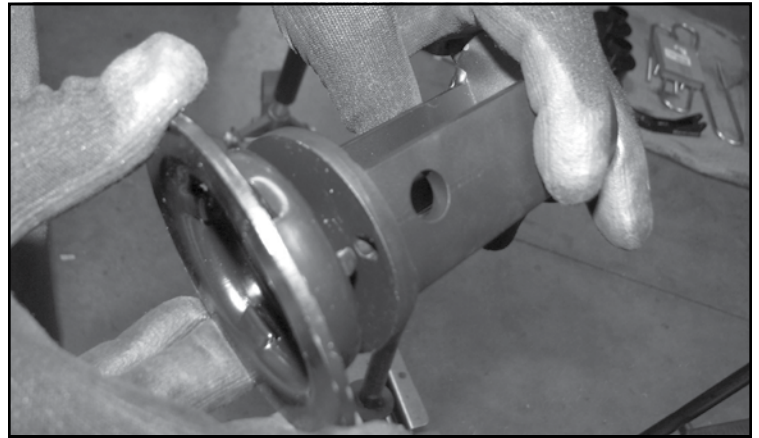

FIGURE 8 - STEP 10
10. Install FT30653 (Bump Stop Extension) onto the factory cup using the supplied 1/2" x 1-1/4" hardware and set aside. Torque to 127 ft-lbs. **SEE FIGURE 8**